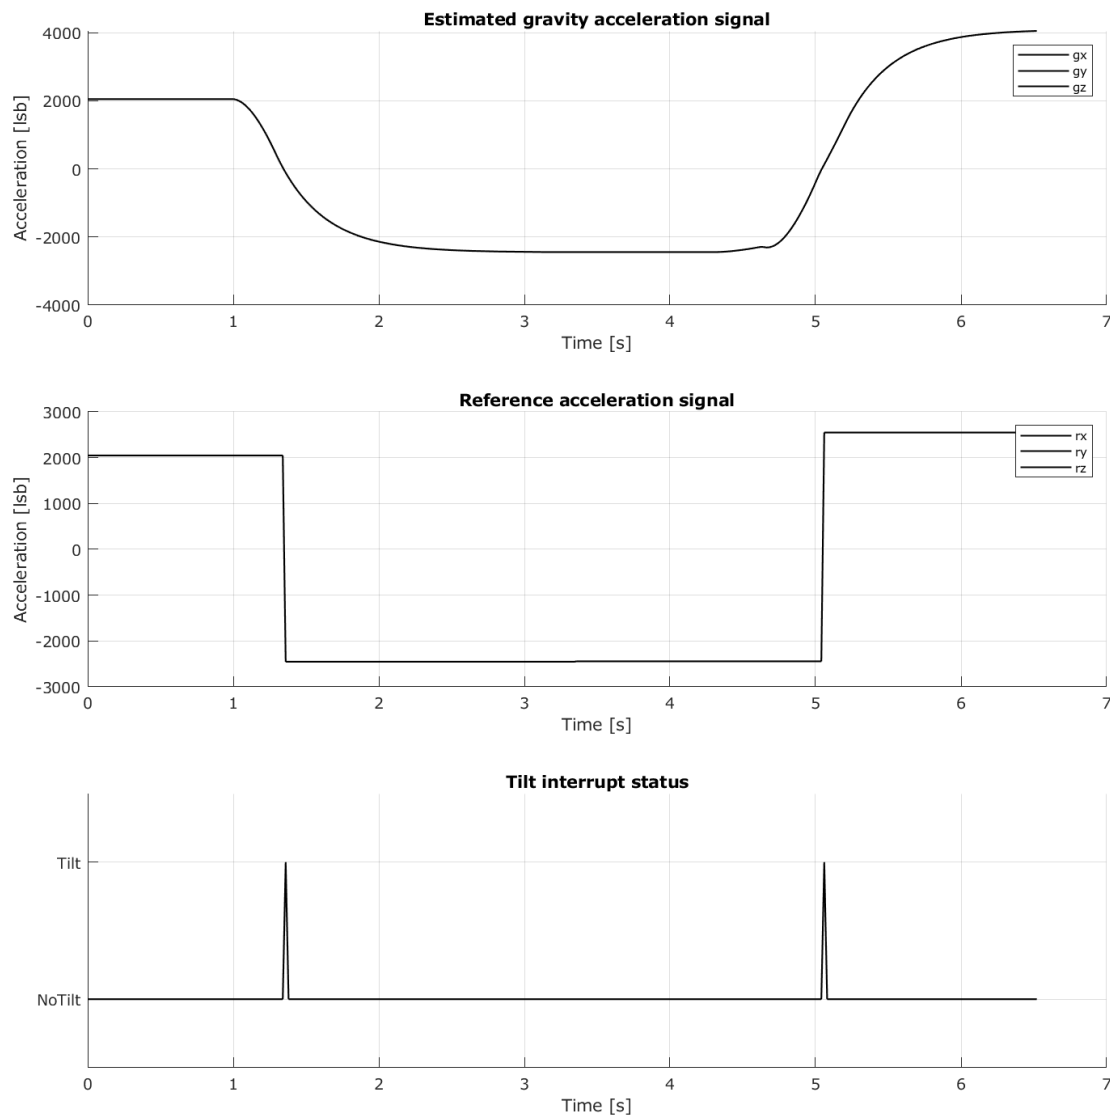

Figure 23: Functional behavior of tilt detection
**Example** The functional behavior of the tilt detector for default configuration settings is shown in Figure 23.